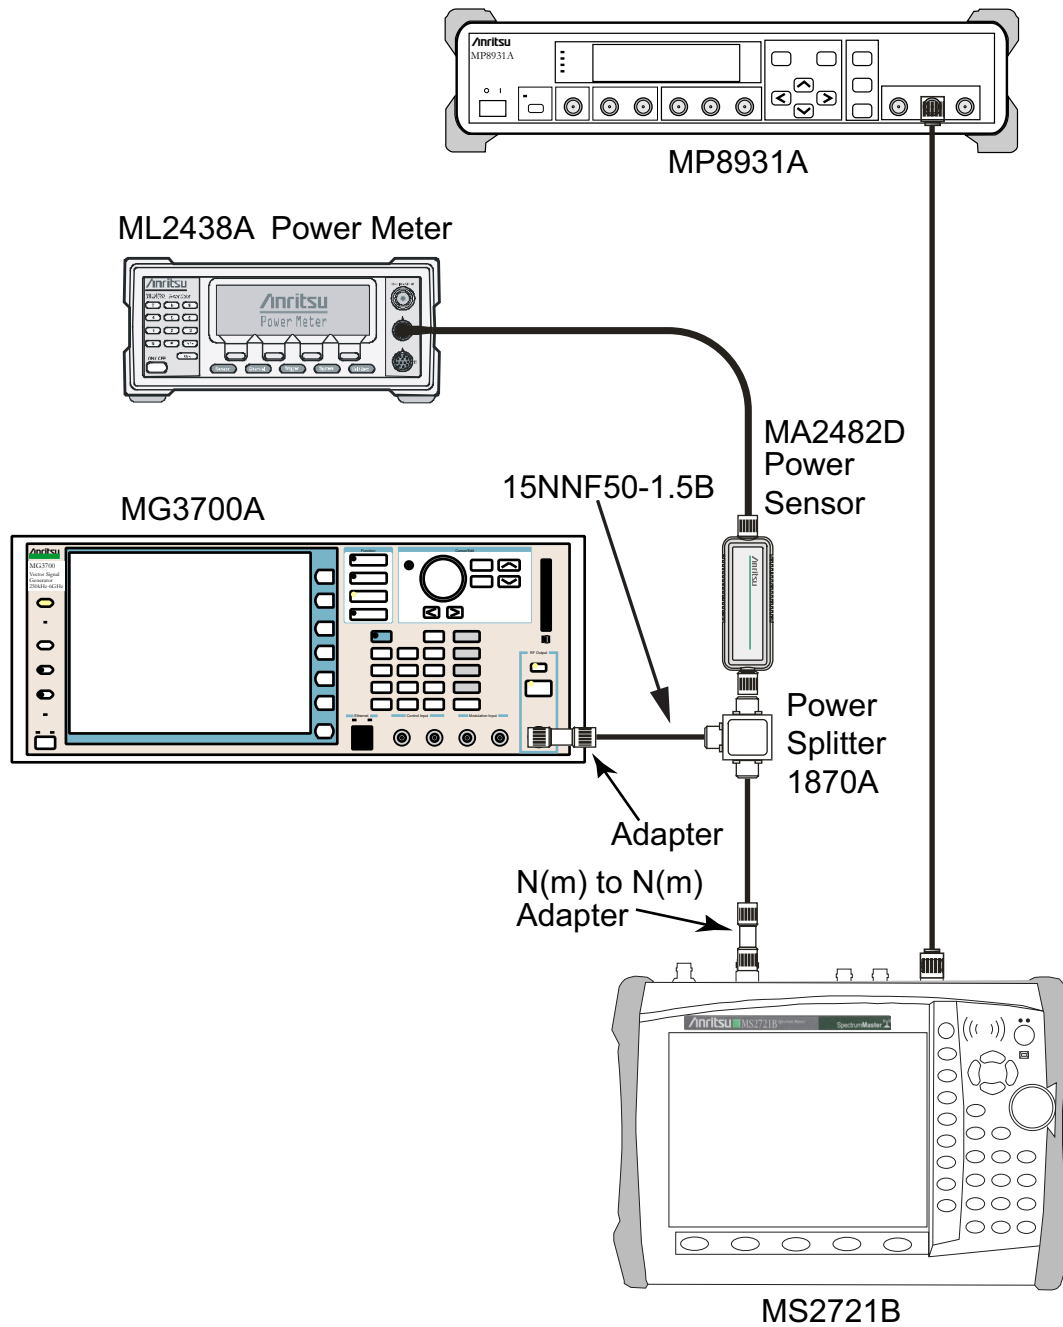

Figure 3-26. DVB-T/H BER, Option 57 – BER Functional Check Setup
3. Connect the MG3700A Signal Generator, Power Splitter, Power Sensor, 34NN50A Adapter, MS2721B, and the MP8931A as shown in Figure 3-26.